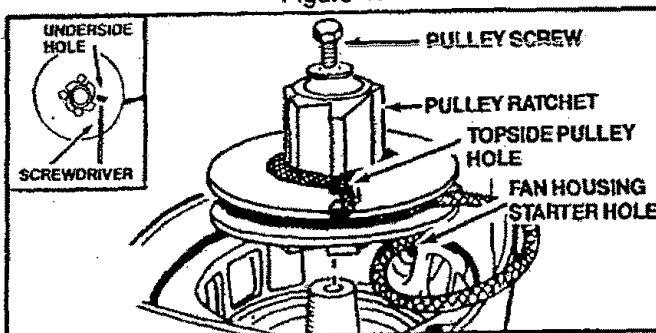

Figure 42
8. Remove the pulley screw in the center of the pulley. Figure 42.
13. Feed the rope through the housing and through the round starter hole. Figure 42.
14. Guide rope inside pulley, then through the topside pulley hole by pushing the rope from the underside hole with a small round object, such as a Phillips screwdriver. See insert, Figure 42.